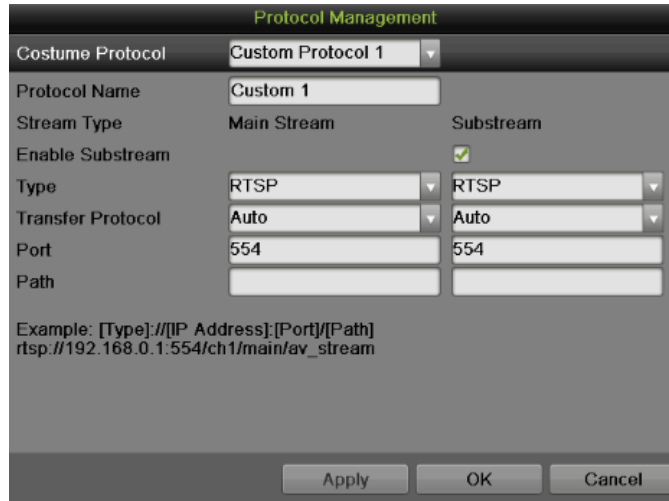

Figure 111 Protocol Management Settings Menu
7. Click Protocol to pop up a Protocol Management box, as shown in Figure 111, to edit the protocol parameters.